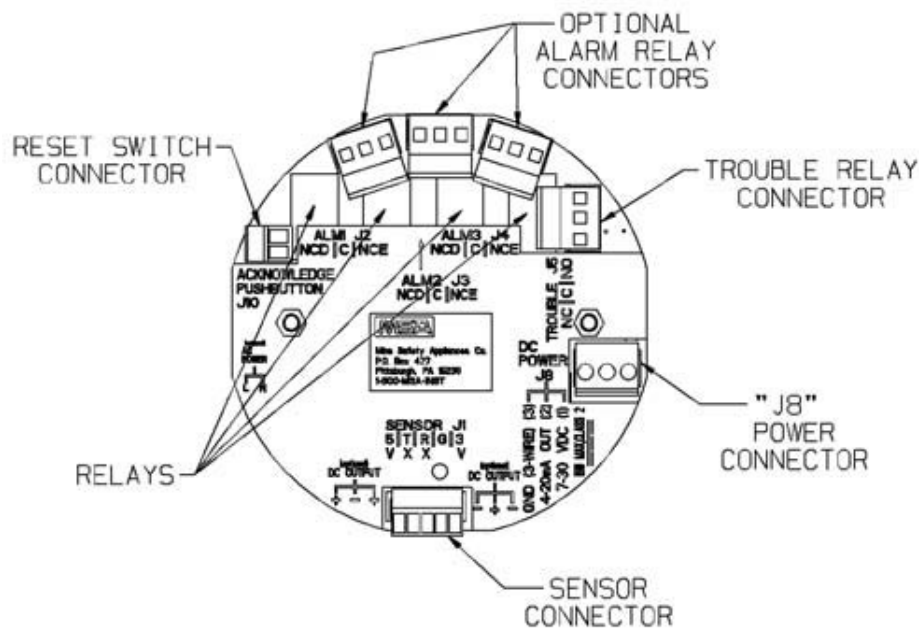

Fig. 32 Relay Printed Circuit Board
- (3) Route customer-supplied cable into the enclosure and connect to the appropriate wiring plugs.
- (4) Identify each conductor of the cable to enable proper connection at the control equipment.
- (5) If installing a RESET push-button:
- a) Route a two-conductor cable to terminal block J10 (Fig. 32).